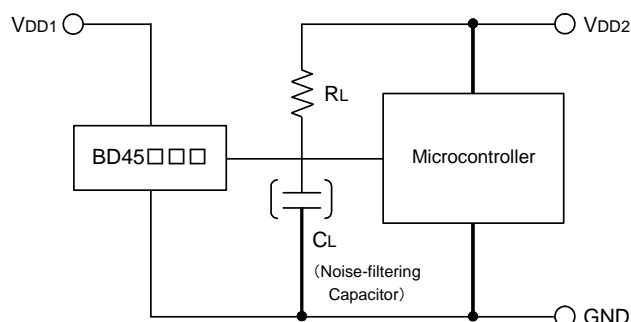

Fig.18 Open Collector Output Type
Use the open drain output type (BD45□□□G) attached a load resistance (RL) between the output and VDD2. (As shown Fig.18)